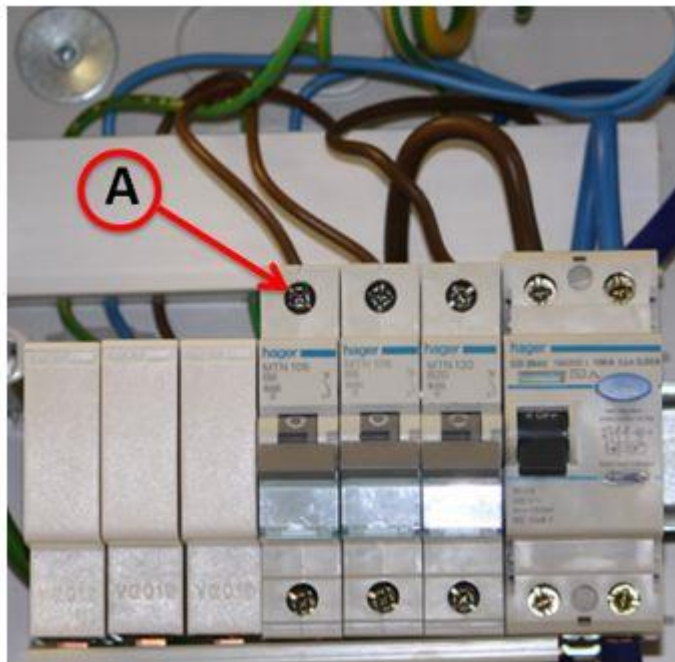

Figure 1
- 3 What is the **minimum** level of IP protection for the opening shown as Item A in Figure 1?